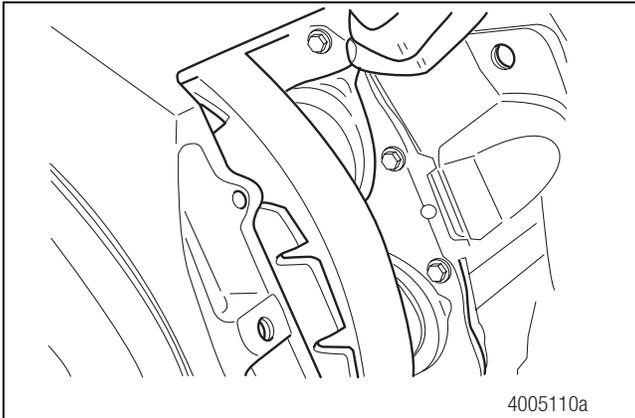

Figure 5.15
13. Use a 10 mm wrench to rotate the manual adjuster stem COUNTERCLOCKWISE and deadadjust the piston assemblies. With the brake fully deadadjusted, it may be necessary to lift the piston boot tab and release air that may be inflating the boot. Figure 5.15.